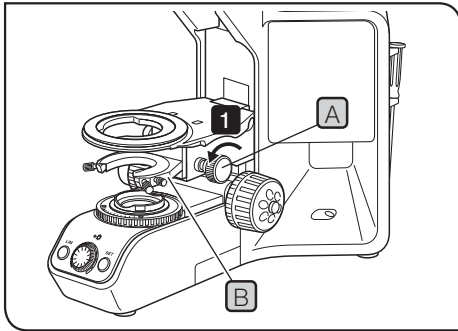

Fig.49
## 5 Attaching the stage (Fig.49 to 51)
- 2** Loosen the specimen holder fixing knob **B** (2 pcs.) of the stage plate. (Fig.49 shows the procedures to attach the specimen holder for observing two slide glasses (U-HRDT-4).)